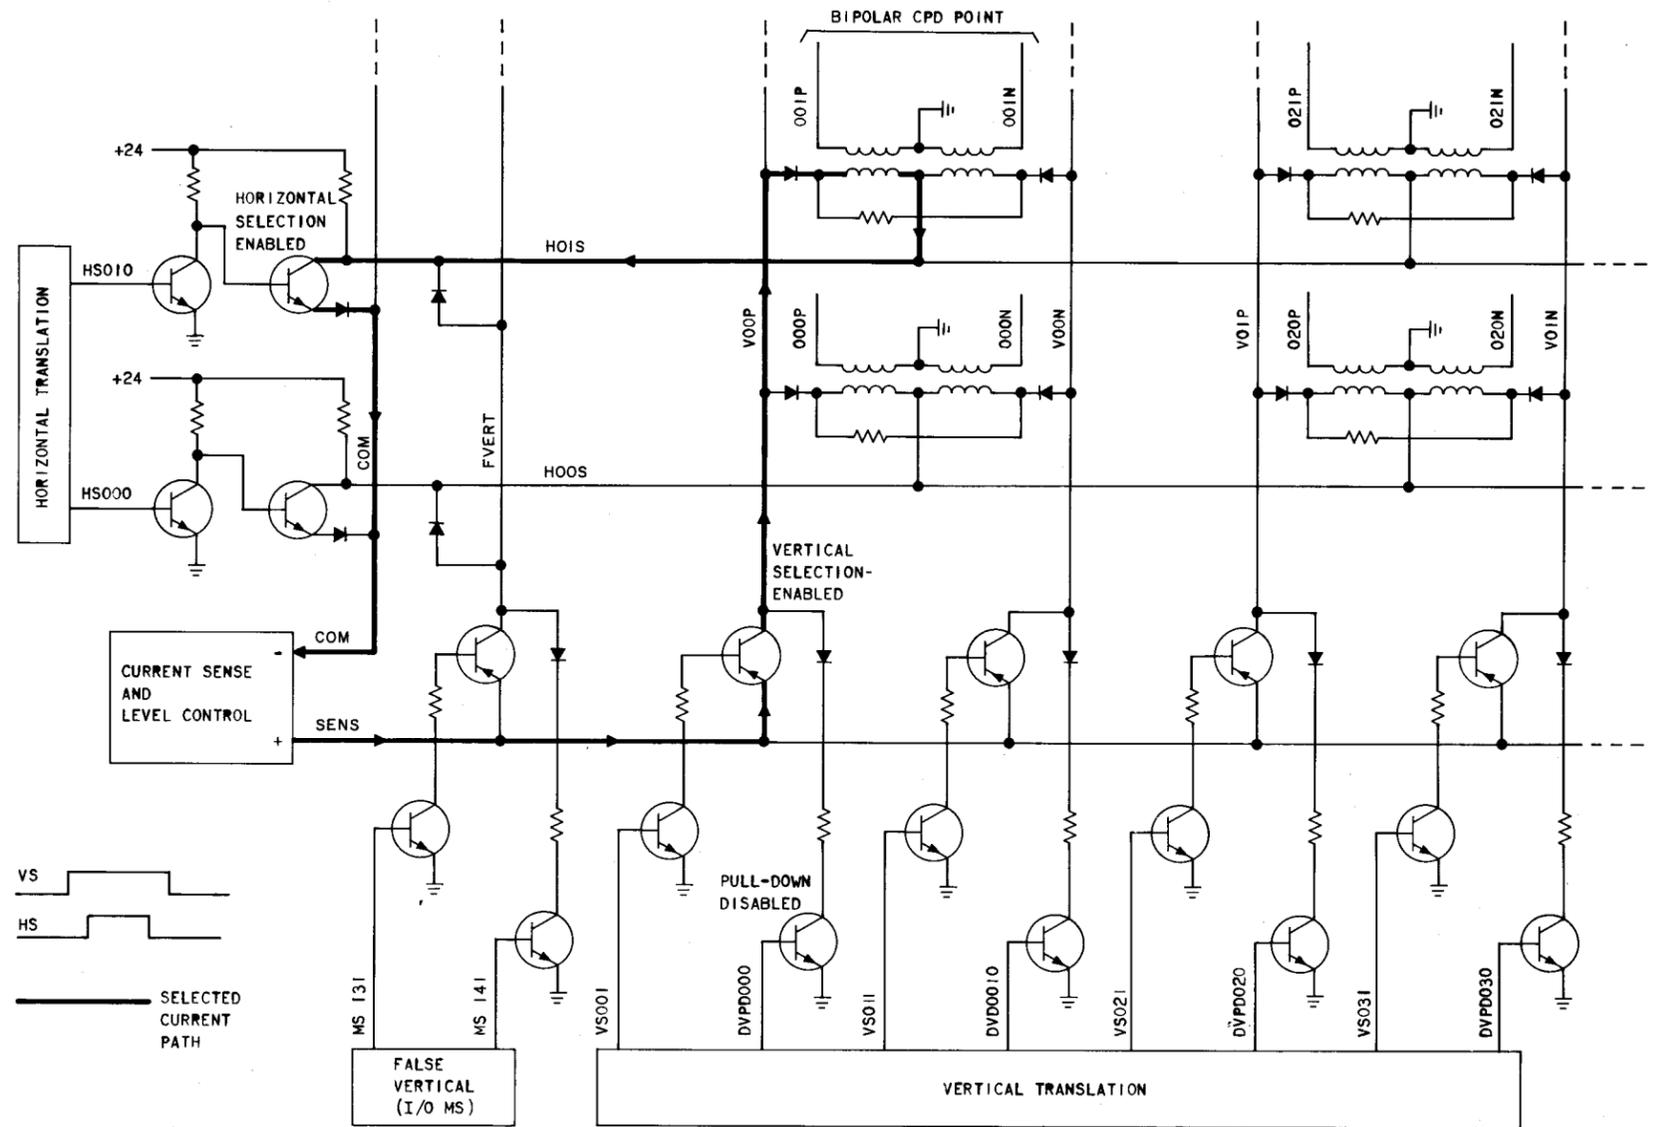

Fig. 5—CPD Matrix
**3.07** Each vertical driver consists of two components, (pull-down and selection) as shown in Fig. 5. One of the 32 vertical pull-down circuits is always disabled, and the remainder enabled. The disabled pull-down is determined by the contents of the I/OEA register. The unselected verticals (pull-down enabled) have a low impedance path to ground which allows shorted semiconductor faults to be detected by an analog check circuit. At the appropriate point in time, (determined by the vertical enable pulse) the selected vertical (VS) lead is activated resulting in a low impedance path to a positive potential supplied by the level control circuitry. The disable vertical pull-down and vertical selection are not performed simultaneously because transistor storage times in the vertical select circuitry could result in overlaps in transistor "on" times, which would appear as a shorted semiconductor fault to the check circuitry.
**3.08** A horizontal selection results in a low impedance path to ground with the unselected horizontals having a high impedance path to a positive battery potential. With the horizontal selection made, a current flow path (Fig. 5) is completed through the matrix. In order to avoid ground noise which could affect the 1A logic in the frame, the matrix current flow path does not pass through the frame ground, but instead passes through wiring in the backplane and on the circuit packs which make the CPD point section. Energy